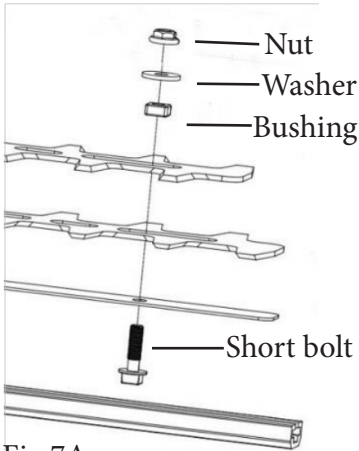

Fig.7A
- Remove the nut, washer, bushing from the bolt at the end of the blade with a hex wrench (not included) (Fig. 7A). Save them for reassembly.